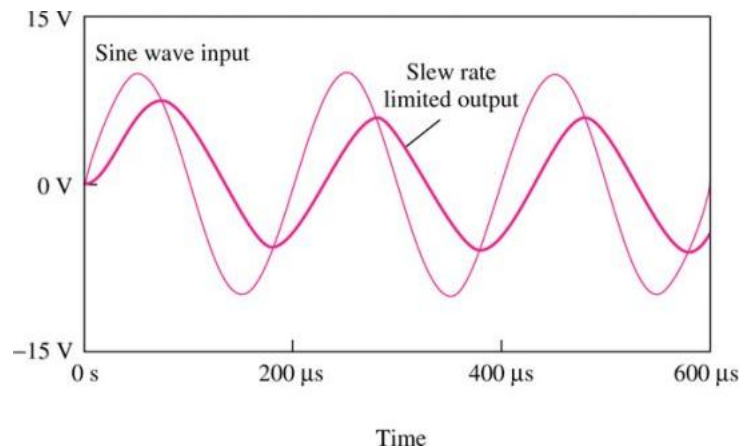

Figure 5: Effect of slew rate on sinusoidal signals
- Now apply a sine wave input of 20V p-p. Keep increasing the frequency of the input sine wave while monitoring the output until it starts to show distortion as shown in Figure 5. Determine this frequency. This is f_M . Verify the relationship between f_M and the slew rate. Record your results in Table II.